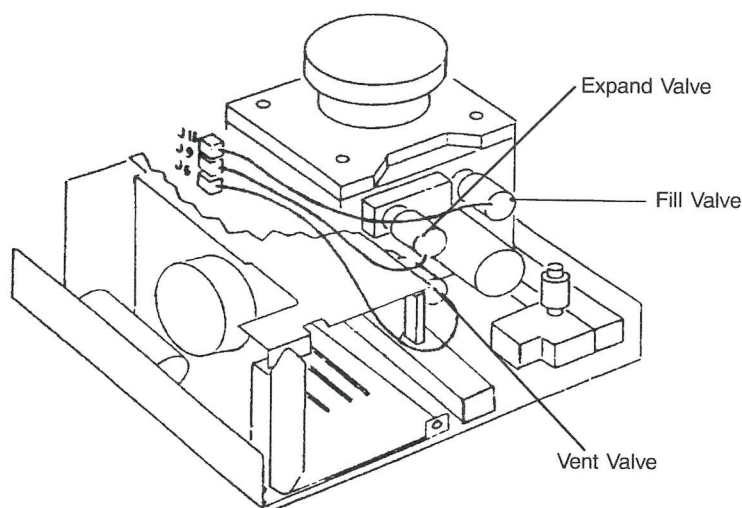

Figure A-7. Connecting Cable Assemblies
15. Attach cables from the Vent, Expand, and Fill valves to J6, J9, and J11 as shown in Figure A-7.